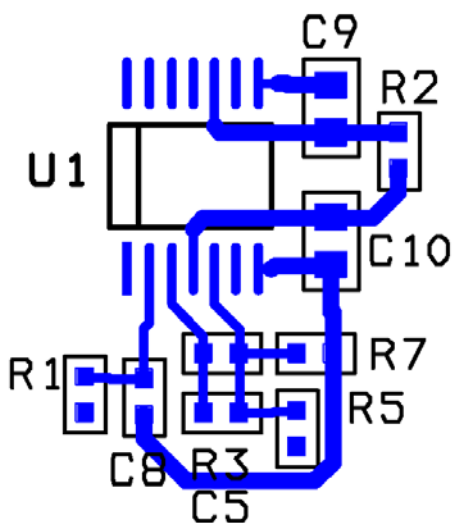

Figure 10: Example VSSA 0.020" Traces
In Figure 10 above, all components referenced to VSSA have been placed and have been connected using 0.020" traces. Decoupling capacitors C9 and C10 are as close as possible to their pins. C9 should connect to the ground plane using two vias
- 4) Notice in Figure 10 on page 18, the placement of 0Ω resistor at the bottom of the output capacitor to connect to VSSA.